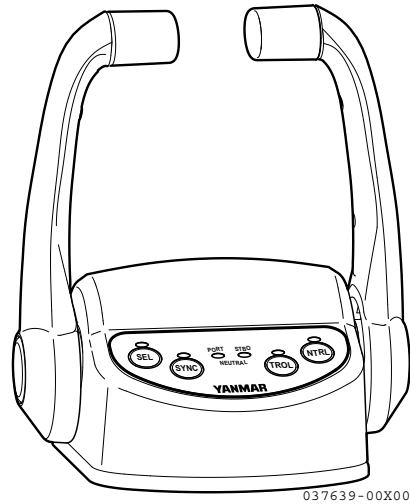
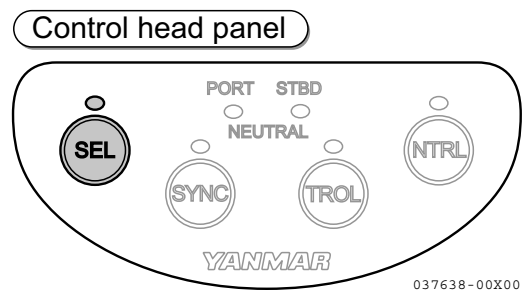

Figure 9
Figure 10
- The switch panel lamp will come on, and the control head (**Figure 9**) "SEL" lamp (**Figure 10**) will come on or flash.